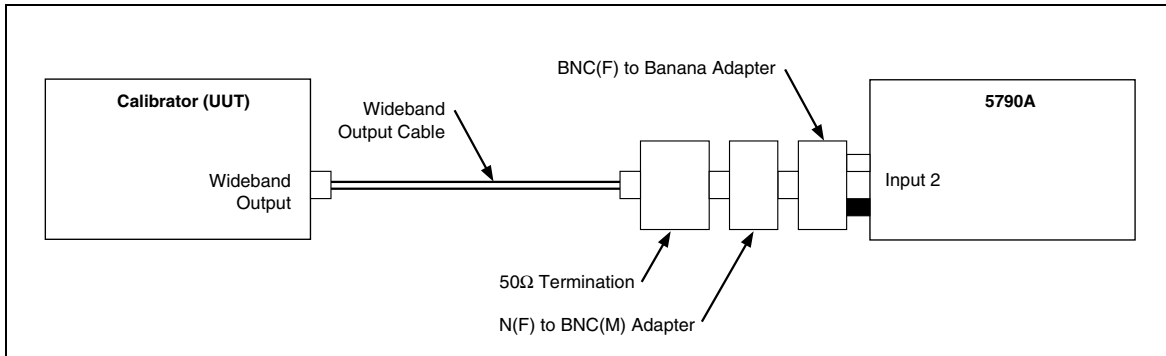

Figure 3-16. Wideband Accuracy at 1 kHz Test Setup
1. Connect the equipment as shown in Figure 3-16.